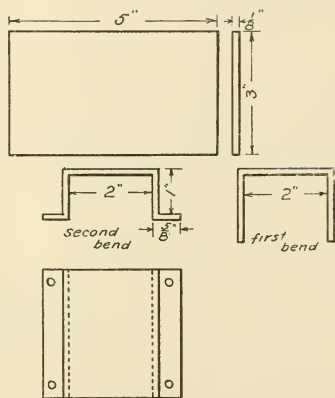

FIG. 213. — IRON FOR LEVELING ROD.
1. A piece of strap iron or heavy soft brass, Fig. 213, can be used for this slide. It is laid out with a pencil; and a line $1\frac{1}{2}''$ from each end is drawn across the piece, leaving $2''$ in the middle. Two other lines $\frac{1}{2}''$ from each end complete the laying out. The two ends are bent down at right angles. At the lines $\frac{1}{2}''$ from each end the iron is bent out again. The screw holes are then drilled.